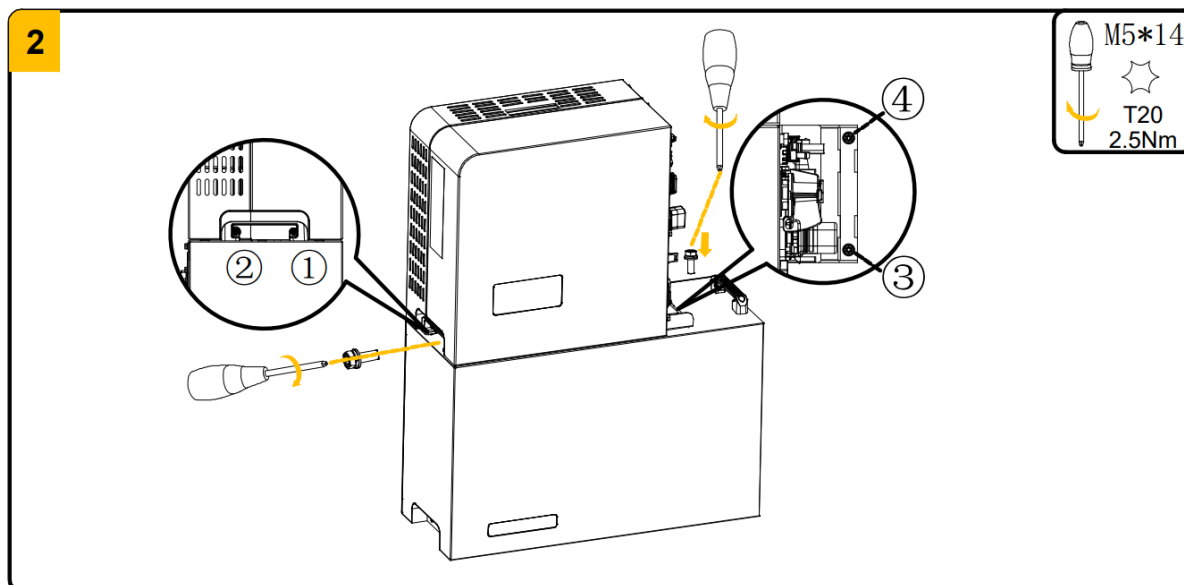

Figure 5-7 Inverter installation diagram
1. Place the inverter onto the battery and tighten the left and right screws (two screws for each side). (tool: T20 screwdriver, torque: 2.5 N·m). Refer to Figure 5-7.